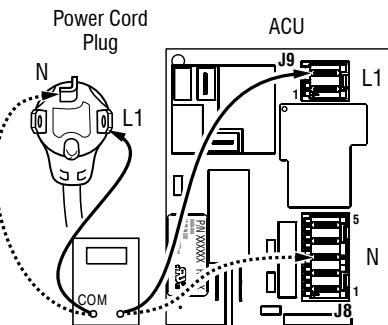

Figure 5 - Plug-to-terminal connections for electric dryer
4. With an ohmmeter, check the continuity from L1 and N plug terminals of the power cord to the terminals for L1 and N on the ACU. See figure 5.